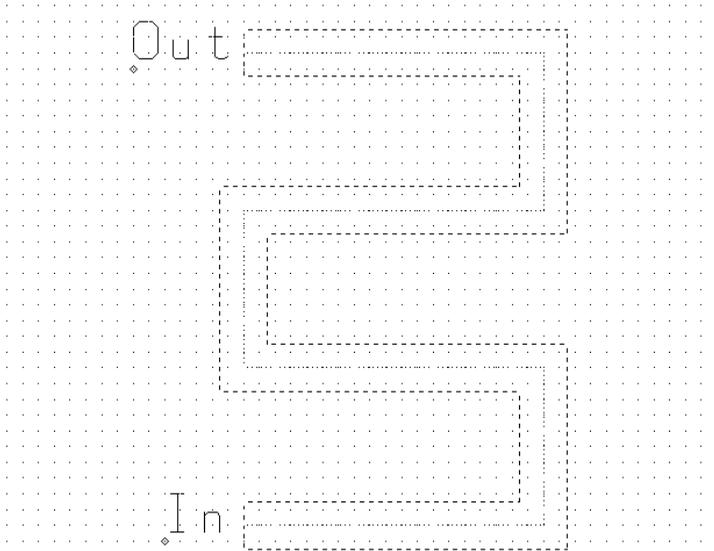

Figure 2.28 Layout of an n-well resistor using a serpentine pattern.
- 2.3** Lay out a nominally 250 k Ω resistor using the n-well in a serpentine pattern similar to what's seen in Fig. 2.28. Assume that the maximum length of a segment is 100 and the sheet resistance is 2 k Ω /square. Design rule check the finished resistor. If the scale factor in the layout is 50 nm, estimate the fabricated size of the resistor.